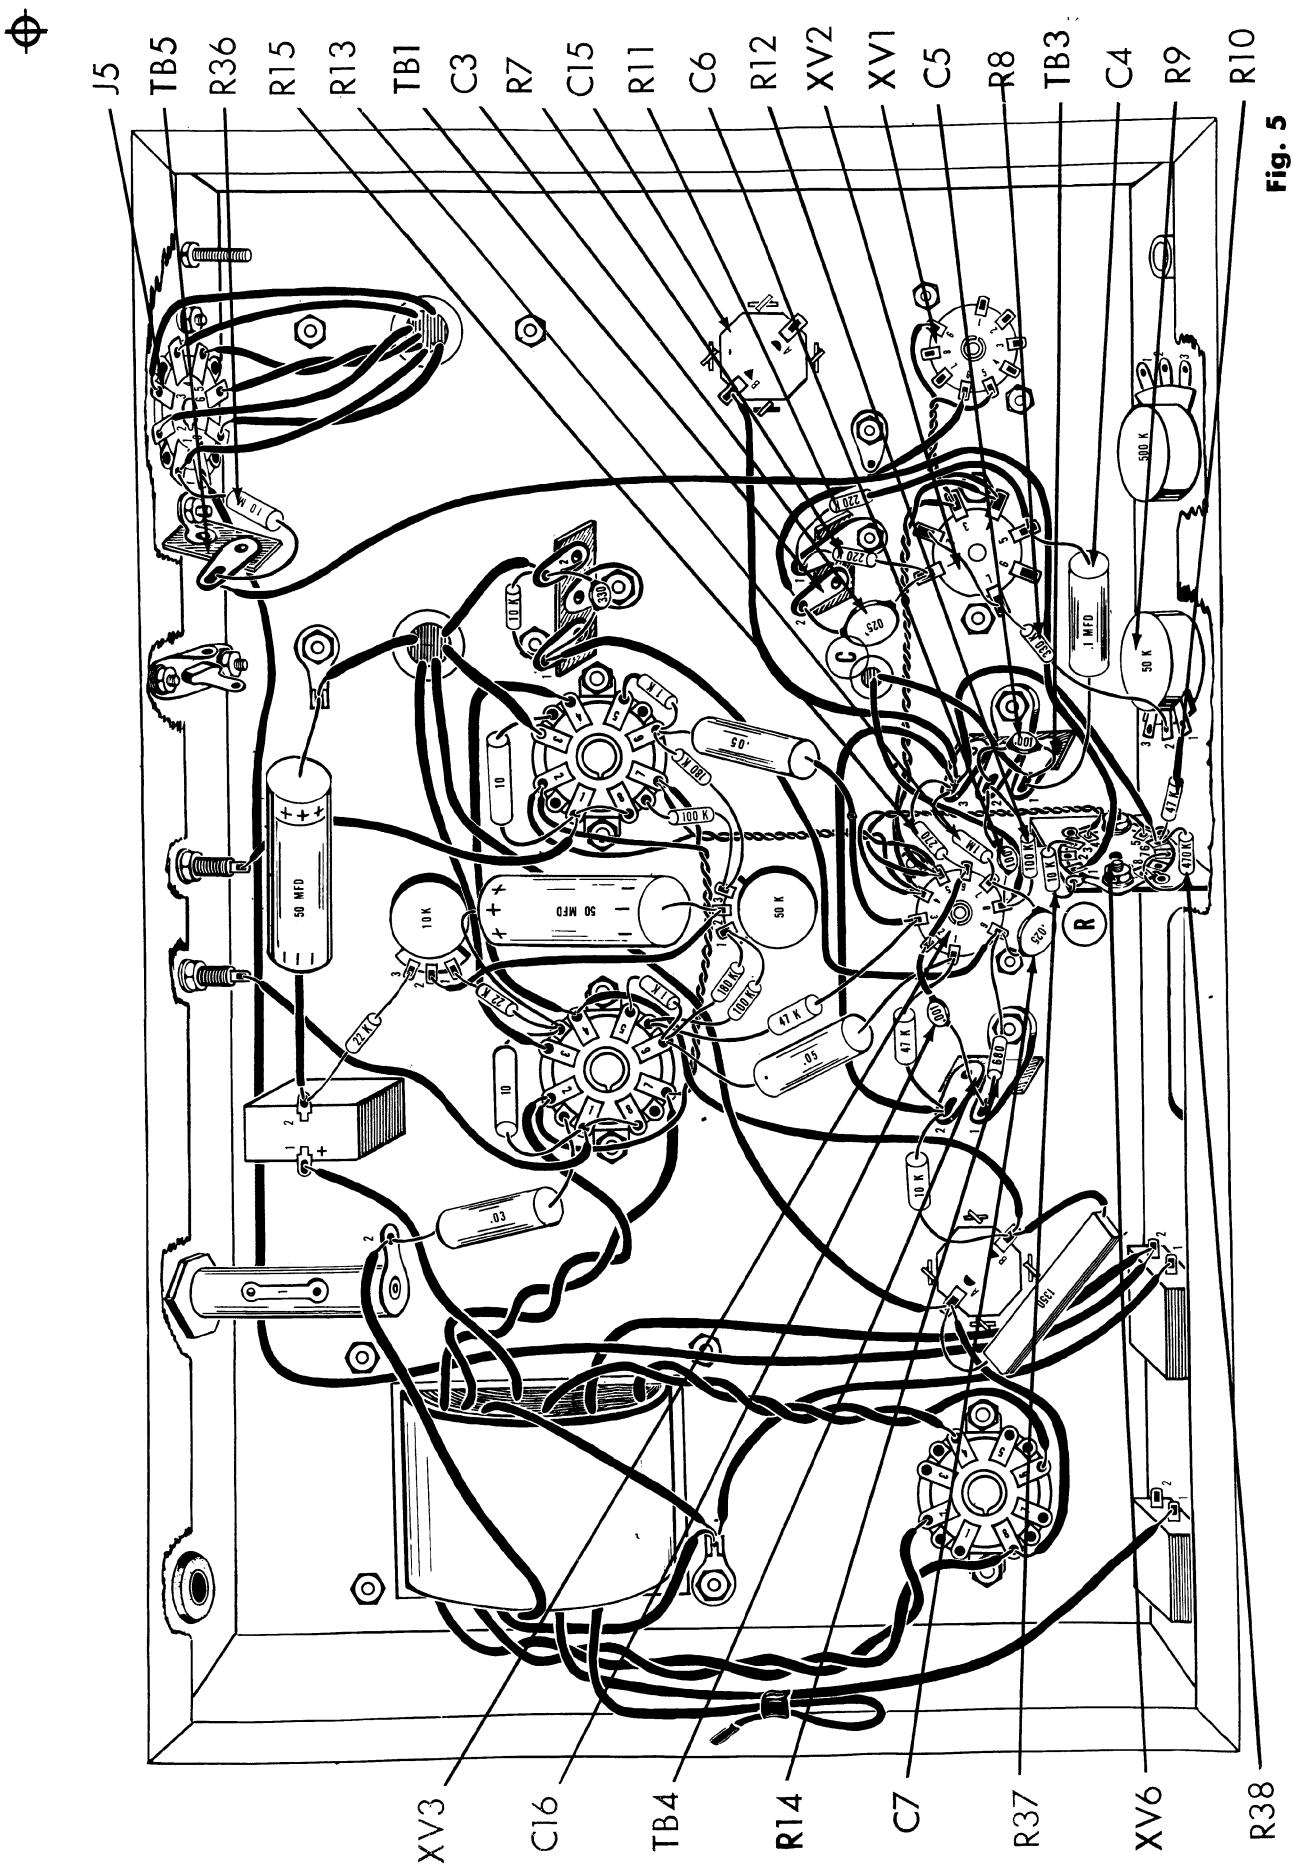

Fig. 5
1. () Fig. 5. Cut both leads on a .001 mfd (1K or 1000 mmf) disc capacitor, C16, to 1". Cover both leads with a 3/4" piece of spaghetti. Connect from XV3-2 (C) to TB4-1 (C).
2. () Fig. 5. Cut both leads on a 680Ω (blue, grey, brown, silver) resistor, R14, to 3/4". Connect from XV3-9 (C) to TB4-1 (S2).
3. () Fig. 5. Connect a 1" piece of bare wire covered with a 5/8" piece of spaghetti from XV3-2 (S2) to XV3-6 (C).
4. () Fig. 5. Connect a 5" piece of red wire from TB3-3 (C) to C15-B (C).
5. () Fig. 5. From hole "C", connect the shorter lead to TB3-1 (C) and the longer lead to XV3-8 (C).
6. () Fig. 5. Cut both leads on a 10K (brown, black, orange, silver) resistor, R37, to 1/2". Connect from XV6-3 (S1) to ground lug "R" (S1) on XV6.
7. () Fig. 5. Connect a 3" piece of red wire from XV6-6 (C) to TB3-3 (C).
8. () Fig. 5. Connect a 3/4" piece of bare wire covered with a 3/8" piece of spaghetti from XV6-7 (S1) to XV6-9 (C).
9. () Fig. 5. Cut both leads on a 47K (yellow, violet, orange, silver) resistor, R10, to 3/4". Cover each lead with a 1/2" piece of spaghetti. Connect from XV6-6 (C) to R9-1 (S1).
10. () Fig. 5. Cut both leads on a 470K (yellow, violet, yellow, silver) resistor, R38, to 1/2". Connect from XV6-9 (S2) to XV6-6 (S3).
11. () Fig. 5. Bend the pot grounding lug on R9 over R9-3 and solder this pot grounding lug to R9-3 (S1).
12. () Fig. 5. Cut both leads on a 1M (brown, black, green, silver) resistor, R13, to 3/4". Connect from XV3-7 (C) to TB3-3 (C).
13. () Fig. 5. Cut both leads on a 270K (red, violet, yellow, silver) resistor, R15, to 3/4". Connect from XV3-6 (S2) to TB3-3 (S5).
14. () Fig. 5. Cut both leads on a .001 mfd (1K or 1000 mmf) disc capacitor, C6, to 3/4". Connect from XV3-8 (C) to TB3-2 (C).
15. () Fig. 5. Cut both leads on a 100K (brown, black, yellow, silver) resistor, R12, to 3/4". Connect from XV3-8 (S3) to TB3-2 (C).
16. () Fig. 5. Cut both leads on a .025mfd (25K or 25,000 mmf) disc capacitor, C7, to 1/2". Connect from XV3-9 (S3) to XV3-7 (S2).
17. () Fig. 5. Cut both leads on a .001 mfd (1K or 1000 mmf) disc capacitor, C5, to 1/2". Connect from TB3-1 (C) to TB3-2 (S3).
18. () Fig. 5. Connect a 3" piece of red wire from TB1-2 (C) to XV1-6 (S1).
19. () Fig. 5. Connect a 11" piece of brown wire from TB5 (C) to XV6-1 (S1).
20. () Fig. 5. Cut both leads on a 10M, 1W ± 10% (brown, black, blue, silver) resistor, R36, to 3/4". Connect from J5-1 (S2) to TB5 (S2).
21. () Fig. 5. Cut both leads on a .1 mfd (brown, black, yellow, white, yellow) capacitor C4, to 1". Connect from TB3-1 (S3) to XV2-5 (C).
22. () Fig. 5. Cut both leads on a 330K (orange, orange, yellow, silver) resistor, R8, to 1". Connect from R9-2 (S1) to XV2-7 (C).
23. () Fig. 5. Connect a 3/4" piece of bare wire from XV2-7 (S2) to XV2-2 (S1).
24. () Fig. 5. Cut both leads on a 220K (red, red, yellow, silver) resistor, R7, to 1/2". Connect from XV2-1 (C) to TB1-1 (C).
25. () Fig. 5. Cut both leads on a .025mfd (25K or 25,000 mmf) disc capacitor, C3, to 1/2". Connect from XV2-1 (S2) to TB1-2 (C).
26. () Fig. 5. Cut both leads on a 220K (red, red, yellow, silver) resistor, R11, to 1". Cover one lead with a 3/4" piece of spaghetti and connect to XV2-5 (S2). Connect the other lead to TB1-1 (S2).